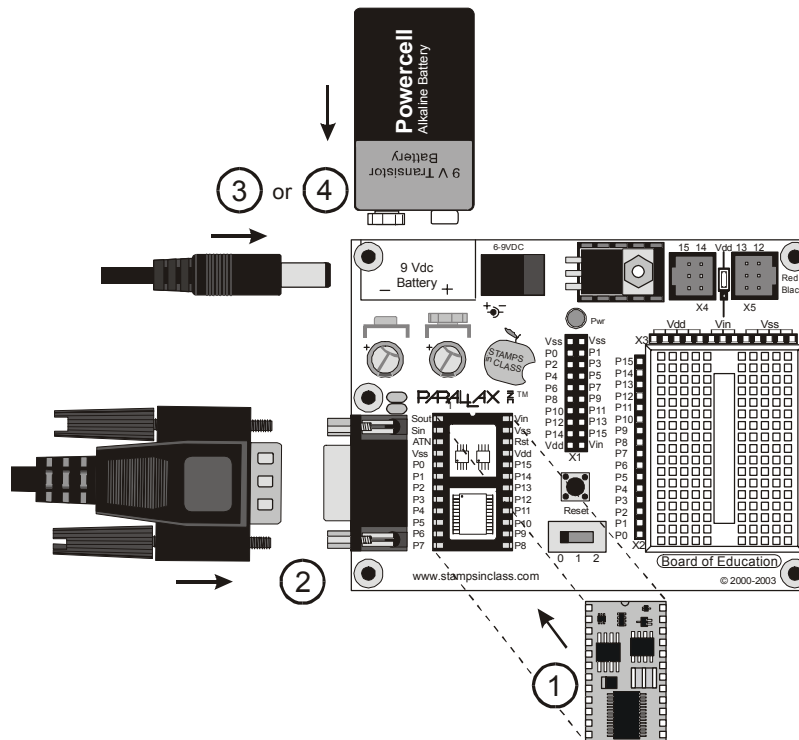

Figure 1-28
Only the Board of Education Rev C has a 3-position switch. To turn off power on a Board of Education Rev B, simply disconnect the power source by either unplugging the DC supply or the battery. These are shown in Figure 1-28, step 3 or 4.
- ✓ If your BASIC Stamp module is not already plugged into your Board of Education, insert it into the socket, oriented as shown in Figure 1-28, step-1. Make sure the pins are lined up properly with the holes in the socket and not folded under, then press down firmly.